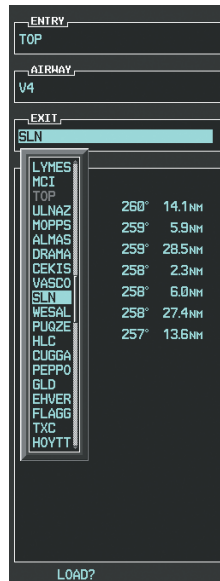

Figure 5-118 List of Available Exits for V4
h) Press the **ENT** Key. The list of available exits for V4 is now displayed as in Figure 5-118.
i) If necessary, turn either **FMS** Knob to select the desired exit. In this case Salina VOR (SLN) is selected as in Figure 5-118.